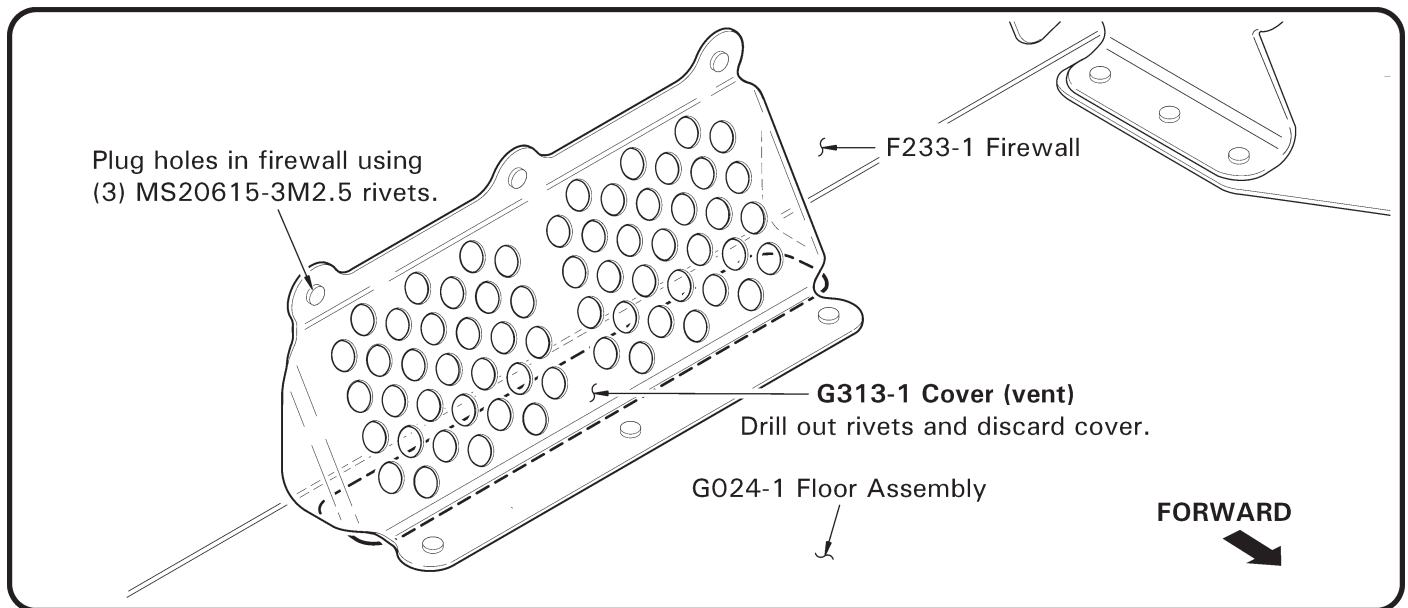

FIGURE 2
2. Refer to Figure 2. If installed, drill out rivets securing G313-1 vent cover to F233-1 firewall and G024-1 floor. Discard cover; clean up debris. Install three MS20615-3M2.5 rivets in firewall to plug holes.